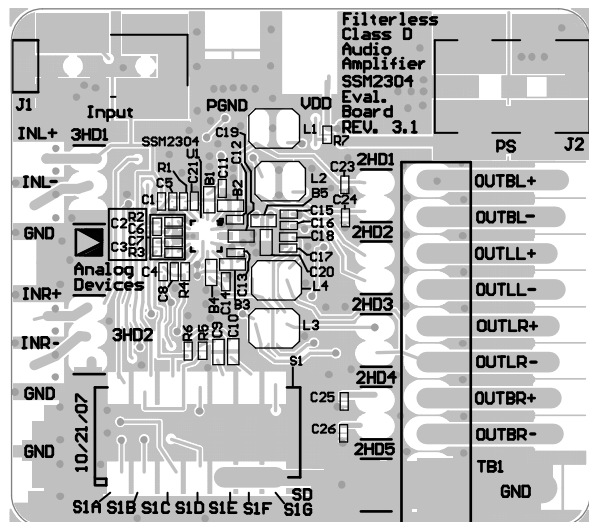
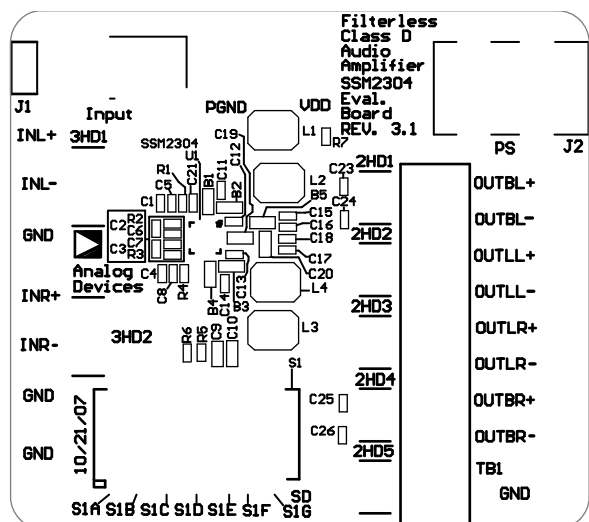
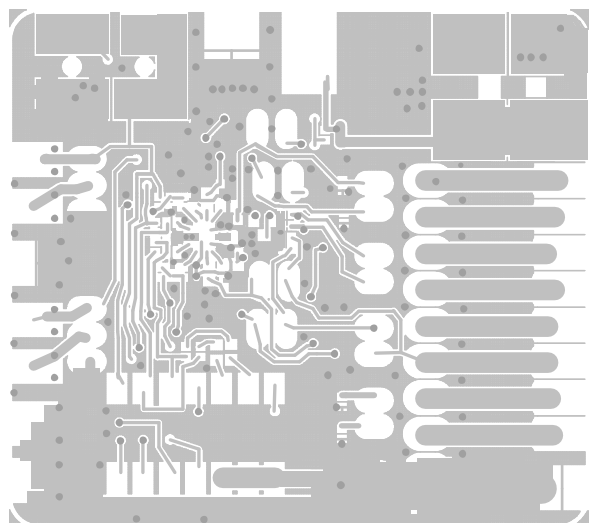

Figure 7. Top Silkscreen Layer with Other Top Layers
Figure 8. Top Silkscreen
Figure 9. Top Layers without Top Silkscreen Layer
these capacitors should be connected to the chip ground as close as possible. See Figure 7, Figure 8, and Figure 9.
10. Connect the ground pins, Pin 6, Pin 7, Pin 13, and Pin 16, to the thermal pad and place grounding vias, as shown in Figure 7, Figure 8, and Figure 9.